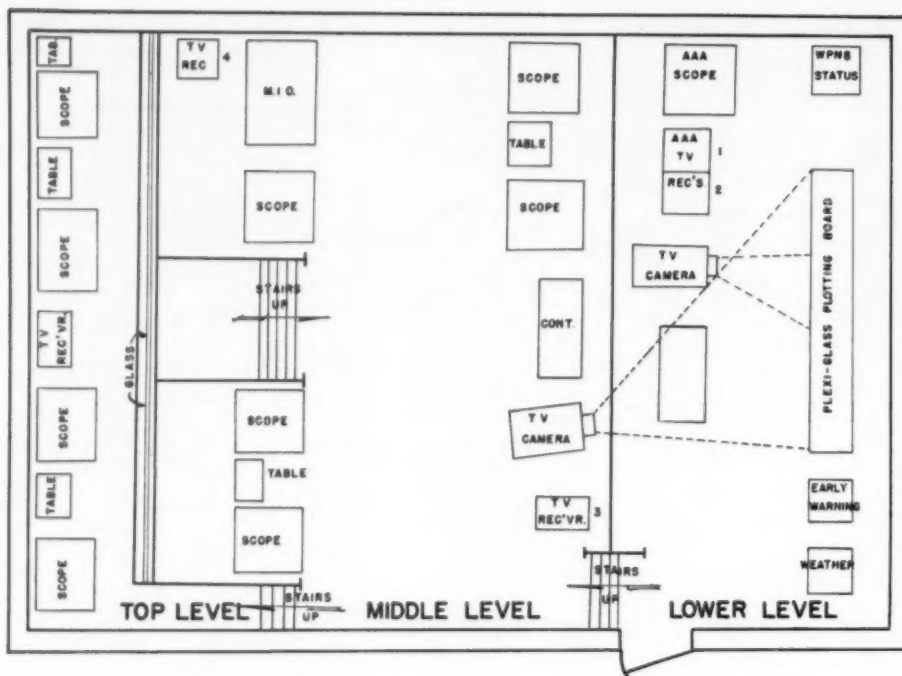

Fig. 2. Layout of Air Defense Direction Center (Air Force) at Cape Charles, Va.
sequence (Fig. 2) is: (1) Air Force radarscope operators at the Air Force site at Cape Charles identify (or spot) flights of aircraft on their radarscopes and, over local headset lines, tell Air Force plotters where to plot the information; (2) an Army man, stationed at the Air Force's Cape Charles site (Fig. 1), then reads plots from the Air Force's